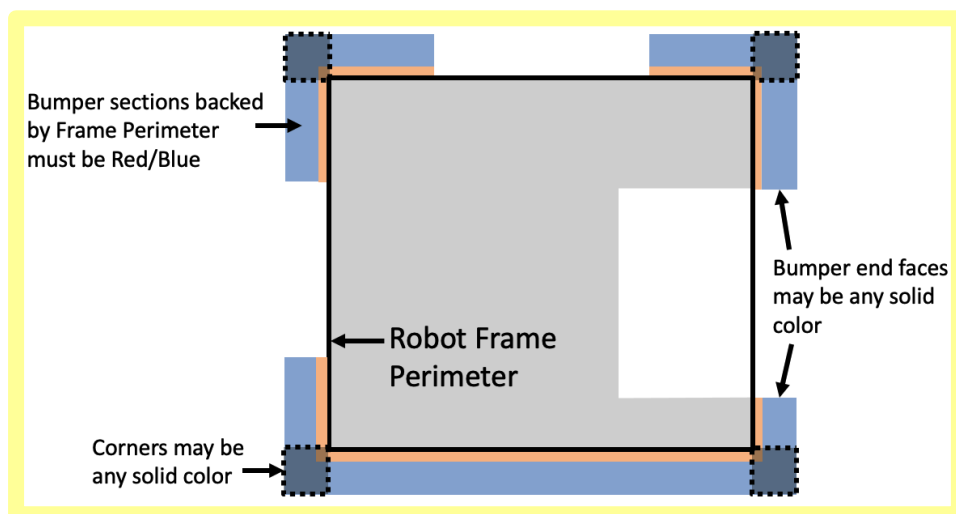

Figure 9-4 BUMPER color example
- R21.** Each ROBOT must be able to display primarily Red or Blue BUMPERS to MATCH their ALLIANCE color, as assigned in the MATCH schedule distributed at the event (as described in MATCH Schedules). A BUMPER is considered primarily Red or Blue if all displayed BUMPER surfaces other than corners (i.e. everywhere the BUMPER is backed by the FRAME PERIMETER) displays the appropriate color. Any visible fabric other than the primary color must be a solid color. See Figure 9-4. BUMPER Markings visible when installed on the ROBOT, other than the following, are prohibited:
BUMPER corners and "ends", shown in Figure 9-4, must be solid in color, but do not need to be the same color as the rest of the BUMPER, as described in R21.